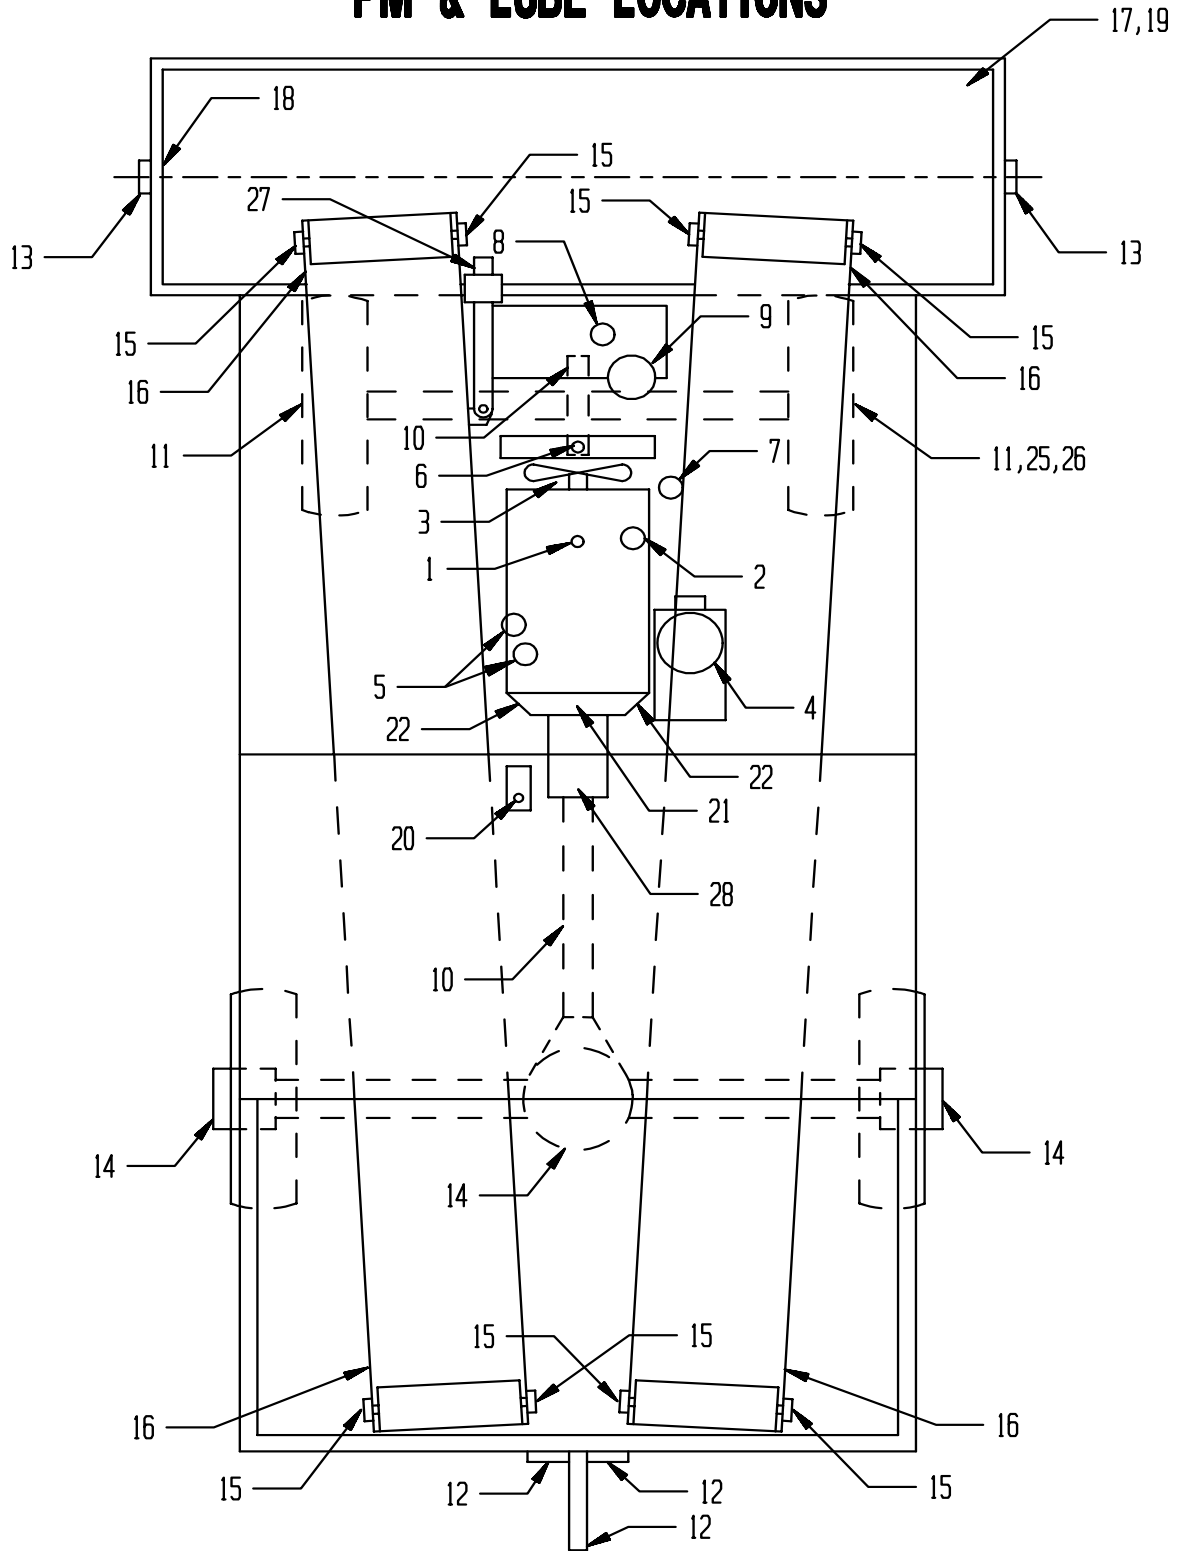

Figure 16
D. Lubrication Points - See Figure 16. Prior to daily operation of the Chipsreader, lubricate the following conveyor components with a high quality bearing grease:
The following components of the front axle and steering group require lubrication at intervals per the Preventive Maintenance Chart at the end of this section. Refer to **Figure 16** for the location of these and all lubrication points.